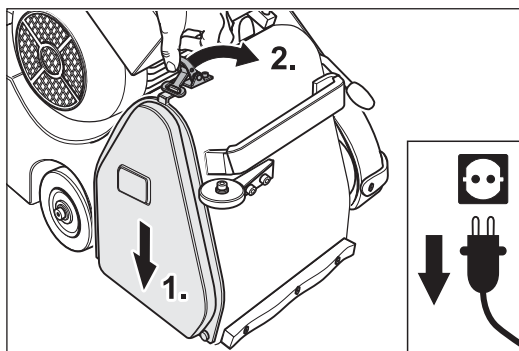

Fig. 13 Mount the side cover.
- 15 After the checking and setting of the sanding belt tracking mount the side cover (Fig. 13).